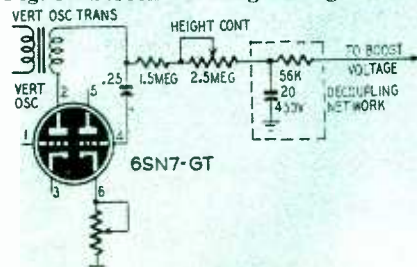

Fig. 6—This circuit gives more height. The decoupling network is essential.
2. Disconnect the height control from B-plus and connect it to the boost voltage at pin 1 of the flyback transformer. A decoupling network, to keep the vertical and horizontal circuits from mutual interaction is required unless already present as in Fig. 6. Be sure the voltage rating of the original decoupling capacitor is sufficient for the higher voltage (20 μ f at 450 volts is a good choice).